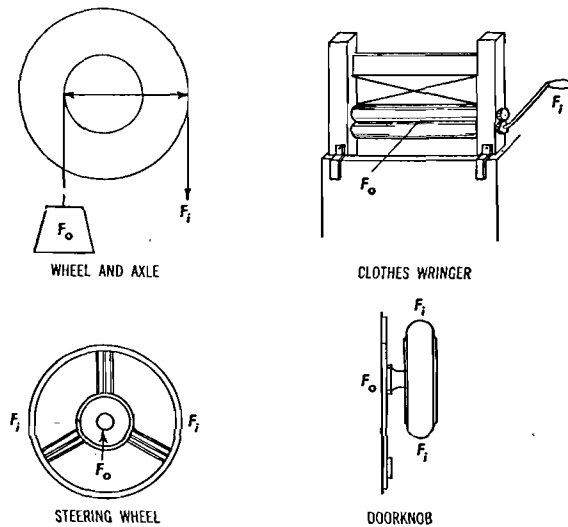

Fig. 4.5. Wheel and axle machines.
**20. The Wheel and Axle.** The usual wheel-and-axle machine consists of two wheels on the same axis, or often one wheel is replaced by a crank which is really one of the spokes of the wheel with a handle at the end. Figure 4.5 shows several wheel-and-axle machines. When the wheel or the crank makes one